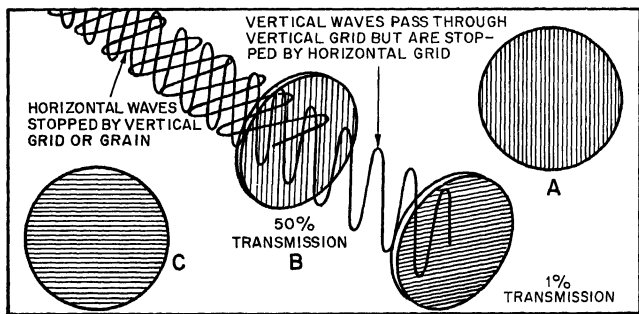

Figure 4-44.—The polarization of light.
Ordinarily, light waves vibrate in all directions. But when light strikes a series of microscopic parallel slats, all of the light that passes through will be vibrating in one direction and we have **POLARIZED LIGHT**. Polarizing filters polarize the light that passes through them. Look at figure 4-44.
Polarizing filters contain a microscopic grid to polarize the light. Figure 4-44, view A, represents a polarizing filter with a vertical grid.
The light that passes through it will be polarized in a vertical plane. If we turn the filter through 90 degrees, the grid will be horizontal. Look at figure 4-44, view C. Then all the waves that pass through the filter will be polarized in a horizontal plane.
In figure 4-44, view B, we have a beam of light that is vibrating in all directions and is striking a polarizing filter with a vertical grid. (In this diagram, the light is coming from right to left. To keep it simple, we have shown only the vertical and horizontal waves.) All of the light that passes through the filter will be polarized, and its vibrations will be vertical. What happens when this polarized light strikes a second polarizing filter? If the grid of the second filter is vertical, the light will pass through. If the grid is horizontal, as in the diagram, the light will stop. If you turn the grid to some angle in between, a part of the light will go through.
**REMEMBER THIS:** Figure 4-44 is only a diagram. We do not intend for it to be a picture, either of light waves or of polarizing filters.